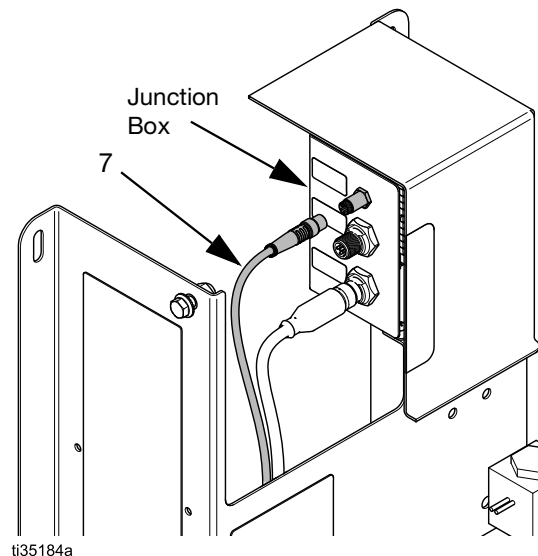

FIG. 11 ProDispense Junction Box
4. Attach the Y-split cable (7) (see C in FIG. 7) of the cable (7) to the top port of the ProDispense junction box (see FIG. 11).